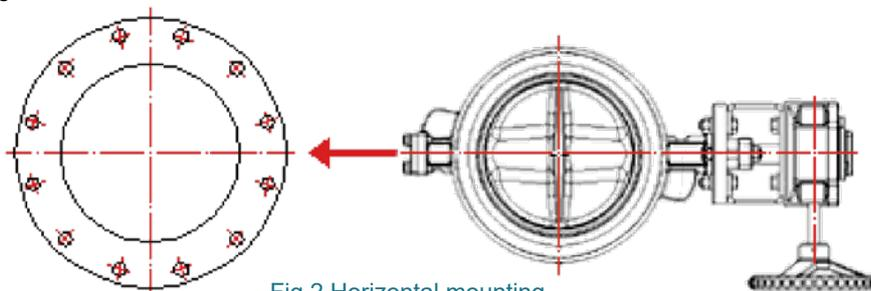

Fig.2 Horizontal mounting
4.4. Install the valve stem horizontally (Fig.2), thus could prevent sand and some chips collect around bottom bushing and seat and damage the valve.